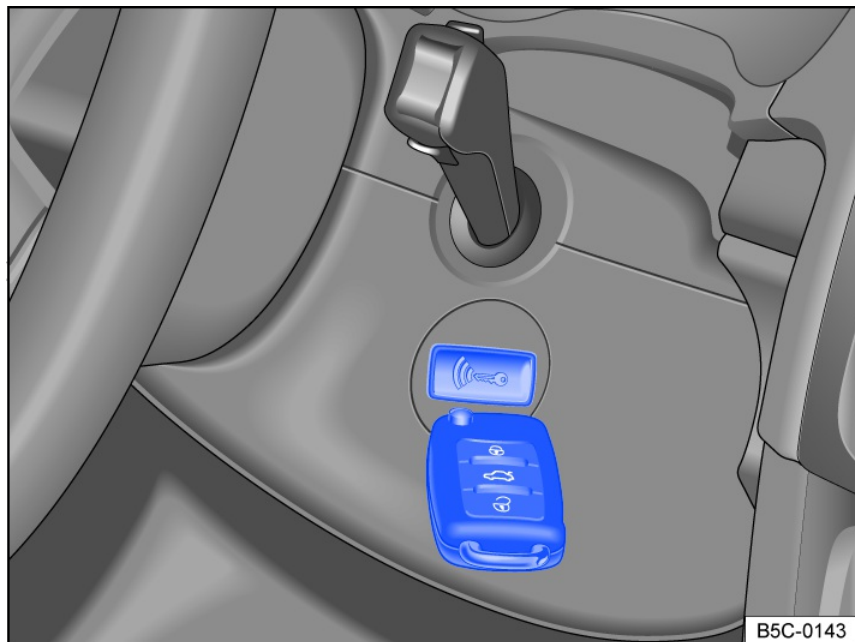

Fig. 89 On the right side of the steering column: emergency start function on vehicles with Keyless Access with push-button start.
2. Hold the vehicle key on the right side of the steering column trim panel immediately after pressing the starter button fig. 89.